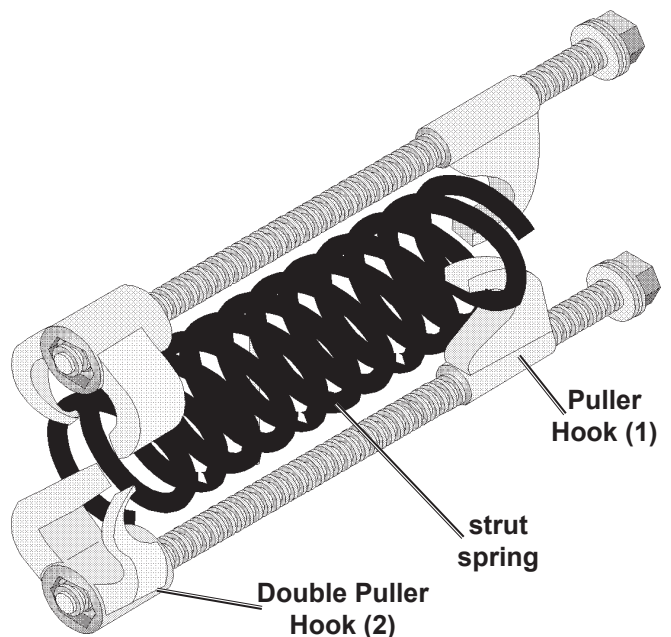

Figure 3 – Compressor-Spring Alignment
5. Adjust the Puller Hook to fit around the strut spring at the end opposite from Step 4. Make sure the Strut Spring Compressor is parallel (straight up and down) with the Strut Assembly, as shown in Figure 3.
6. Tighten the Support Bar Nut (9) until it contacts the Puller Hook (1).
7. Remove the Wing Nuts (4) from two of the Safety Hooks (6).